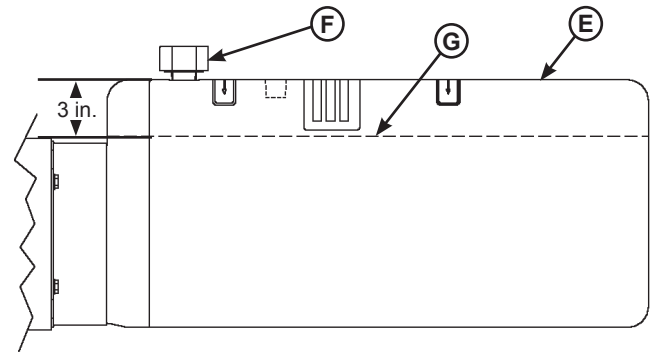

Figure 24
- Check reservoir fluid level (G, see Figure 24):
3. Remove breather cap (F).
4. Measure fluid level. The fluid level should be approximately 3 in. (76.5 mm) from top of reservoir (E) with platform at the below-dock position.